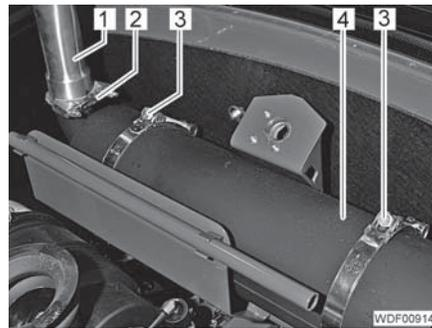

Fig. 97 Muffler
- Release the clamp (Fig. 97,2).
- Detach the tail pipe (Fig. 97,1) by pulling it upwards.
- Unscrew the 2 screws (Fig. 97,3).
- Pull out the muffler (Fig. 97,4) to the left.
- Insert the mufflers (Fig. 97,4) into the clamps from the left-hand side and adjust.
- Tighten the 2 screws (Fig. 97,3).
- Attach the tail pipe (Fig. 97,1) with clamp (Fig. 97,2) to the muffler from above.
- Tighten the clamp (Fig. 97,2).